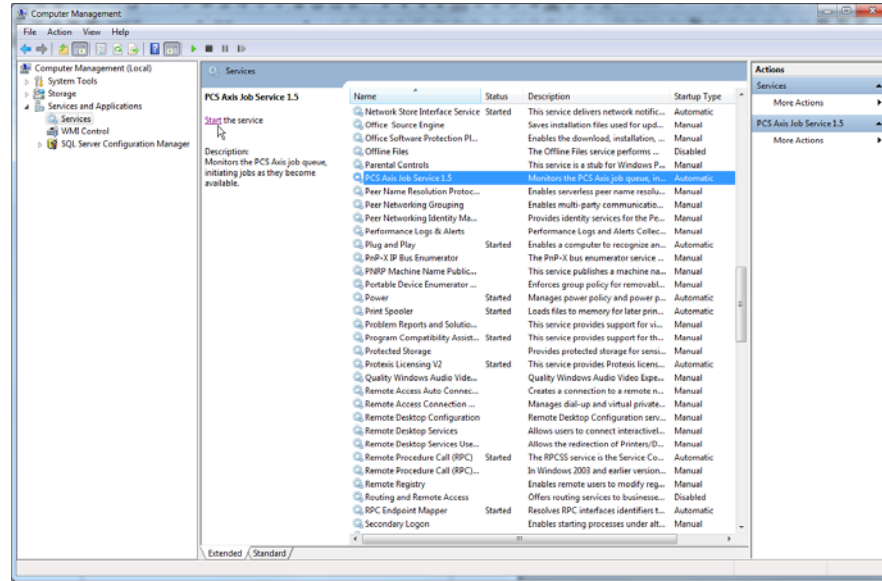

Figure 11-6. Computer Management Console
- a Click the Windows **Start** button  and navigate to *Computer*. Right-click **Computer** and select **Manage** in the shortcut menu to open the *Computer Management* console (Figure 11-6, page 491).